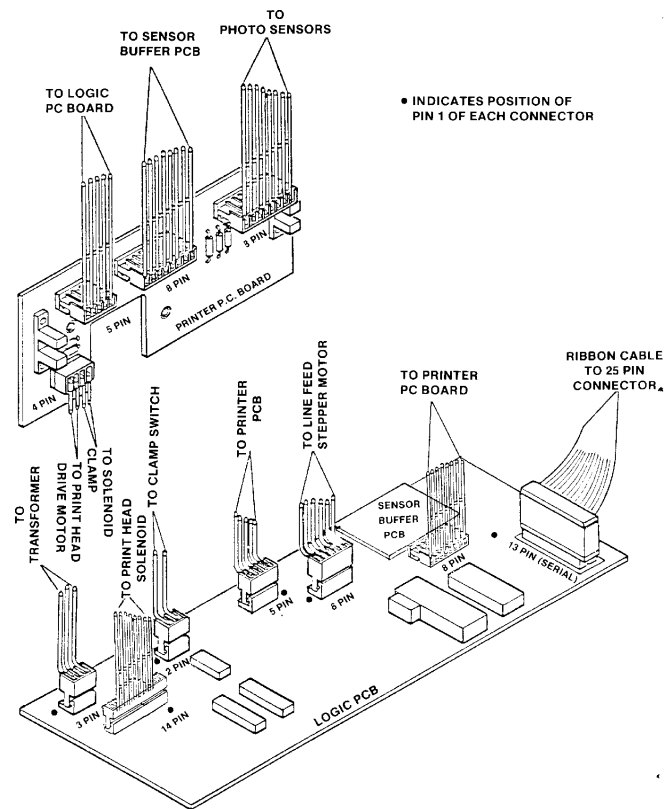

Figure 25. Terminal Pin Schematic
- b). Remove the clamp switch Cable 2-pin connector at the Logic PC board (See Figure 25).
- c). Disconnect the 3-wire connector on the Logic PCB (See Figure 25).